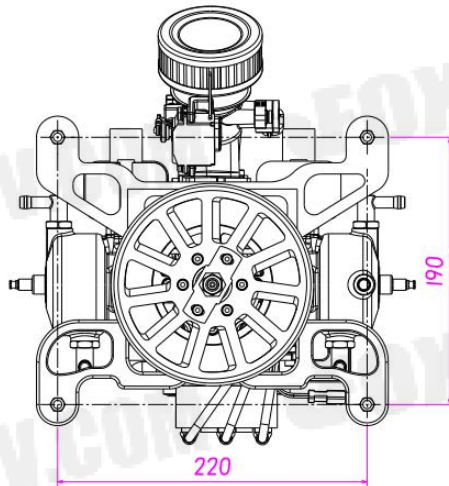

Fig. 4
2. The installation dimension of Halo-6000 is given in Fig. 4: